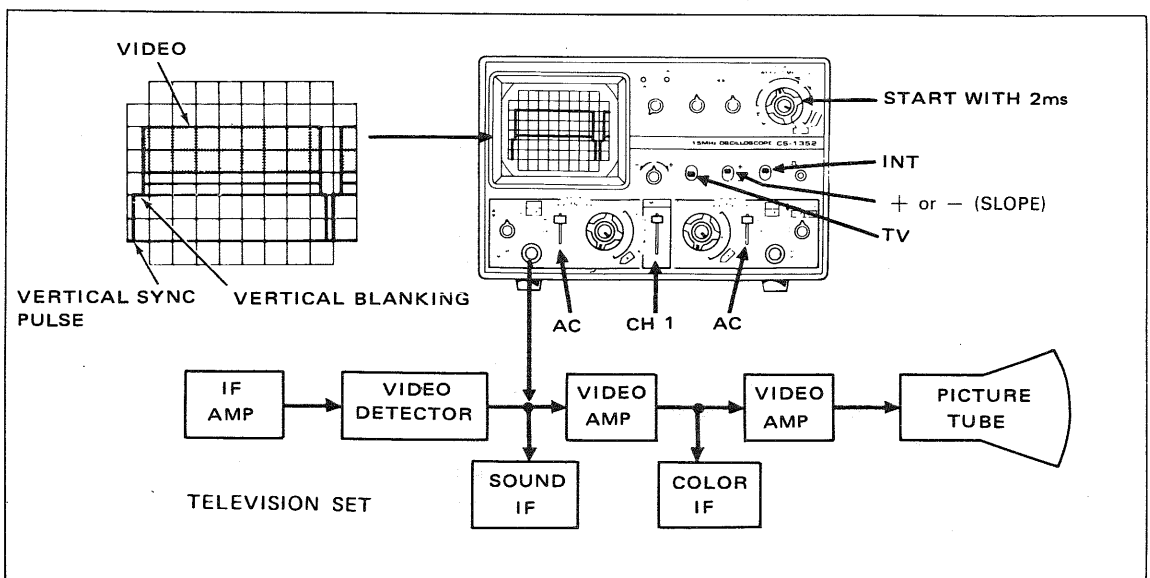
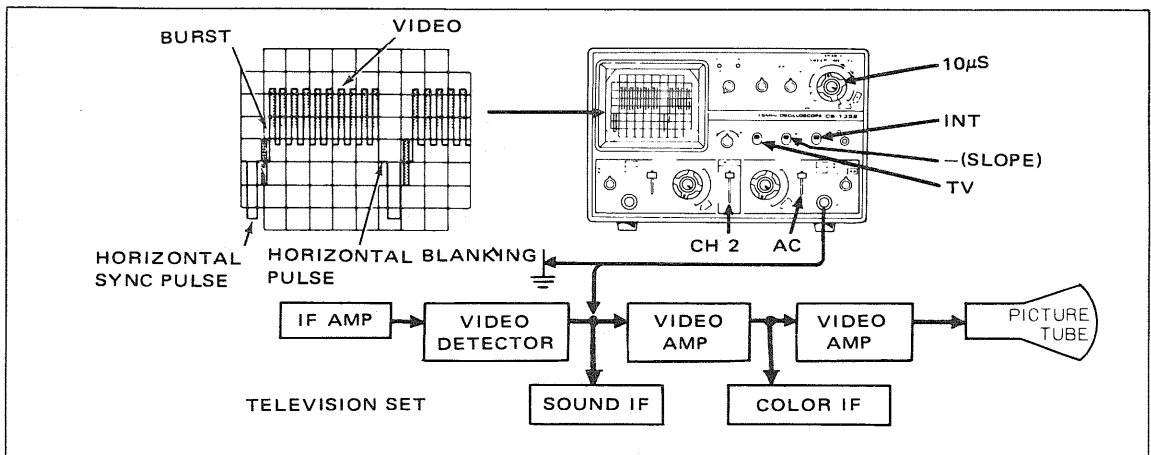
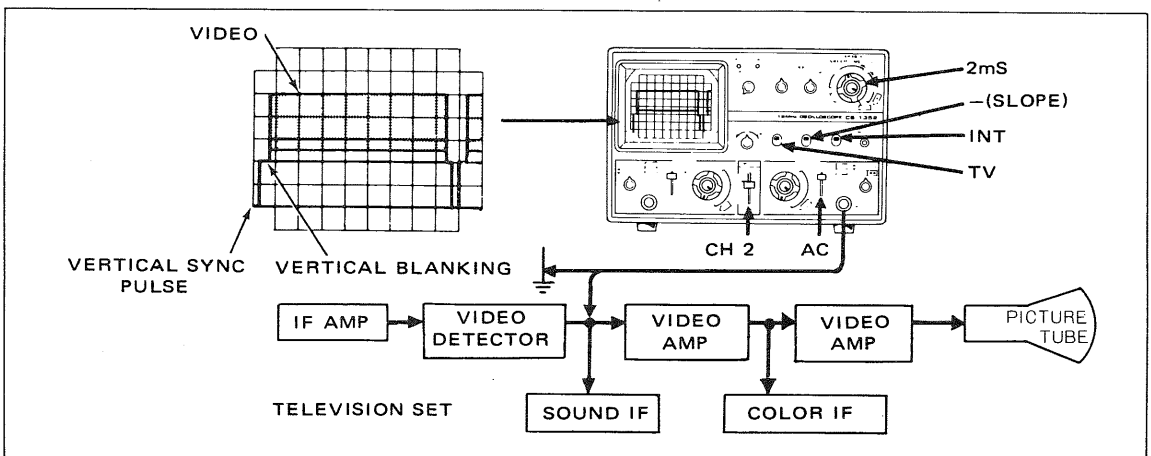

Fig. 18 Set-up for viewing fields 1 and 2 of VITS information
Fig. 19 Set-up for viewing horizontal fields of composite video signal
Fig. 20 Set-up for viewing vertical fields of composite video signal
Many of the video servicing procedures can be performed using single-trace operation. These are outlined later in the applications section covering single-trace operation. One of these procedures, viewing the VITS (vertical interval test signal), can be accomplished much more effectively using a dual-trace oscilloscope. As outlined in the single-trace applications section and as shown in Fig. 19 and 26, the information on the Field 1 and Field 2 vertical blanking interval pulse is different. This is shown in detail in Fig. 19. Also, because the oscilloscope sweep is synchronized to the vertical blanking interval waveform, the Field 1 and Field 2 waveforms are superimposed onto each other. With dual-trace operation, the signal information on each blanking pulse can be viewed separately without overlapping. Fig. 18 indicates the os-
If the VITS response at the detector output is normal for all channels, the trouble will be in the video amplifier. Look for open peaking coils, off-value resistors, solder bridges across foil patterns, etc. With dual-trace oscilloscope operation, the signal information on each vertical blanking interval can be viewed separately without trace overlapping, although the information alternates with each field. Fig. 18 indicates the oscilloscope control setting for viewing the alternate vertical blanking intervals.
2. The control settings of Fig. 18 are these required to obtain a 2-Field vertical display on CH1.
Probably the most important waveform in television and video servicing is the composite waveform consisting of the video signal, the blanking pedestal signals and the sync pulses. Fig. 19 and Fig. 20 show typical oscilloscope traces when observing composite video signals synchronized with horizontal sync pulses and vertical sync pulses. Composite video signals can be observed at various stages of the television receiver to determine whether circuits are performing normally. Knowledge of waveform makeup, the appearance of a normal waveform, and the cause of various abnormal waveforms help the technician locate and correct many problems. The technician should study such waveforms in a television receiver known to be in good operating condition, noting the waveform at various points in the video amplifier. To set up the oscilloscope for viewing composite video waveforms, use the following procedures:
In a typical wide band amplifier, a square wave check reveals many distortion characteristics of the circuit. The response of an amplifier is indicated in Fig. 20, revealing poor low-frequency response along with the overcompensated high-frequency boost. A 100 Hz square wave applied to the input of this amplifier will appear as in Fig. 31A. This figure indicates satisfactory medium frequency response (approximately 1 kHz to 2 kHz) but shows poor low frequency response. Next, a 1 kHz square wave applied to the input of the amplifier will appear as in Fig. 31B. This figure displays good frequency response in the region of 1000 to 4000 Hz but clearly reveals the over compensation at the higher 10 kHz region by the sharp rise at the top of the leading edge of the square wave.